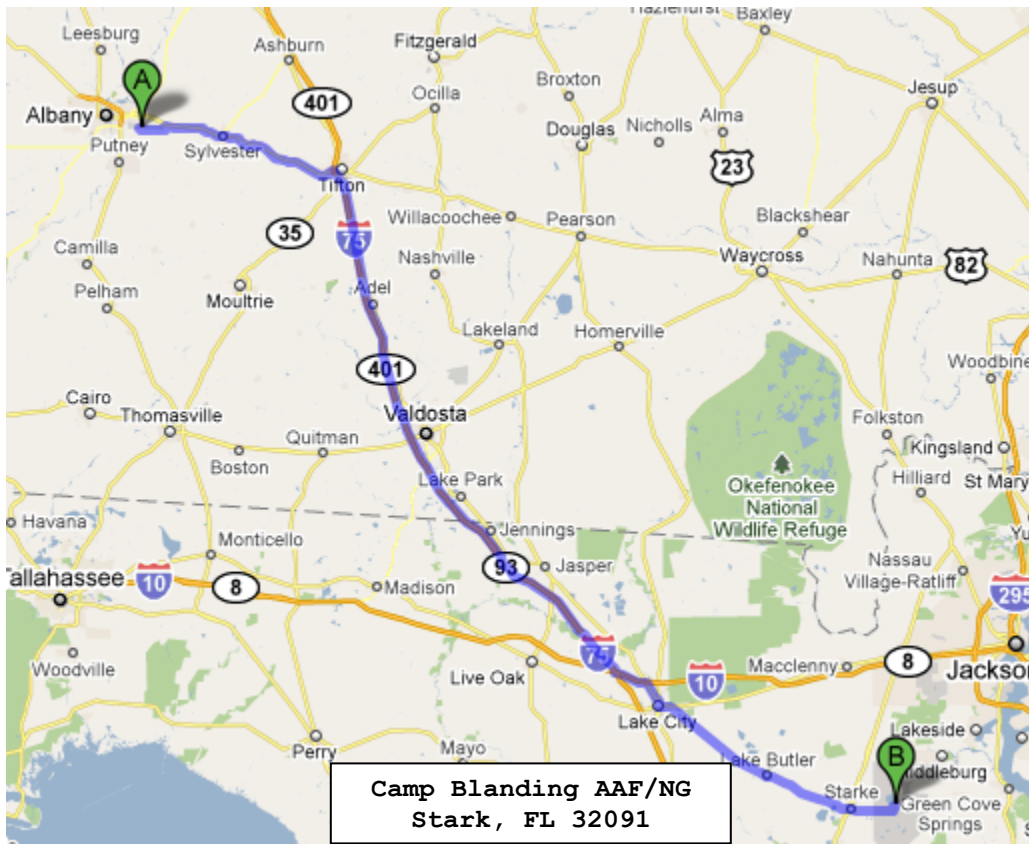

Figure 4-2
- b. Figure 4-2 illustrates the route from MCLB Albany to Camp Blanding.